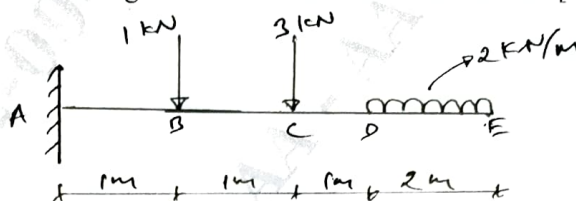

Fig.Q7(b)
- b. Calculate shear force and bending moment and draw SFD and BMD. [Refer Fig.Q7(b)].